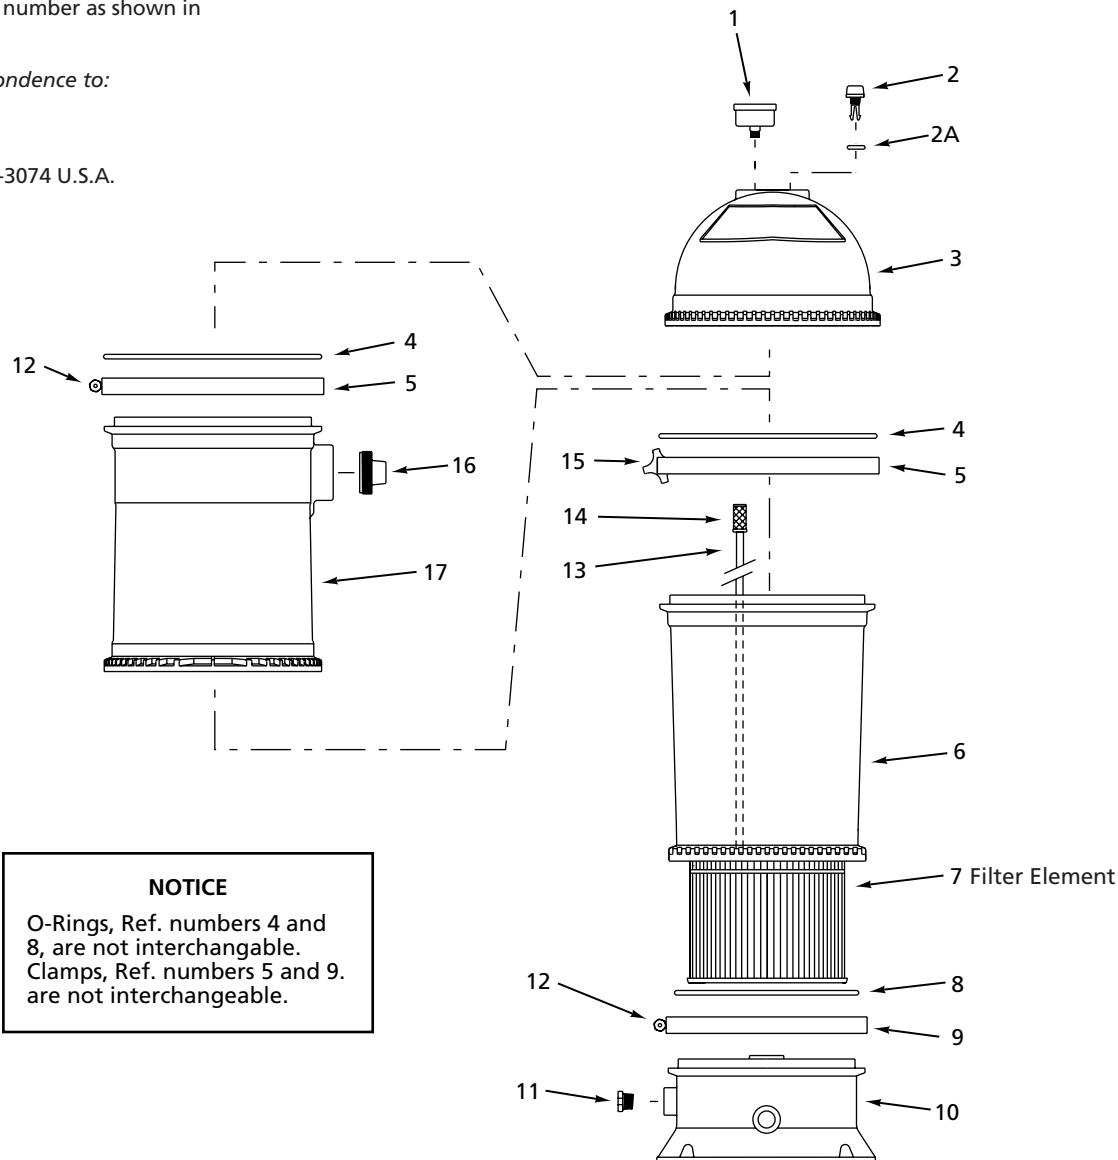

Figure 20 – Filter Repair Parts Illustration
5. Open air release valve (See Figure 20, Ref. No. 2).